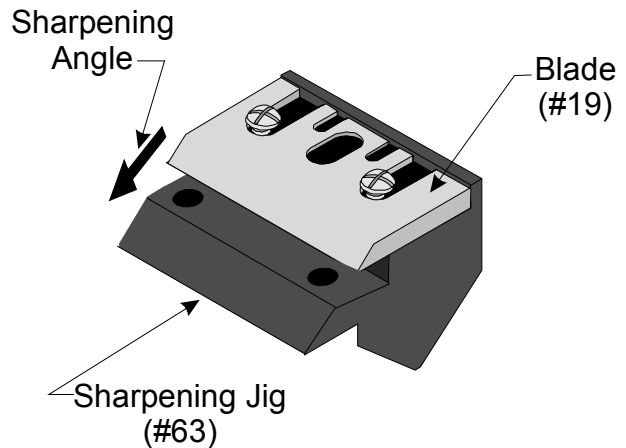

Figure 4 — Removing the Blade and Sharpening Jig
Step 5: Mount the BLADE to the SHARPENING JIG (#63) as shown in Figure 4.